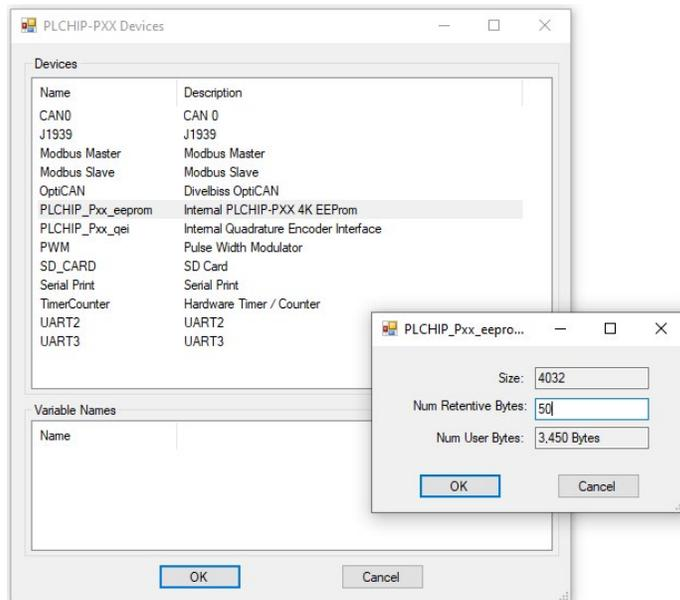

Figure 2.33 - Configure EEPROM Memory
4. Enter the number of retentive bytes to use in the target in the **Num Retentive Bytes** box. The maximum available to use is 3500 bytes. Refer to Figure 2-33. Any bytes not configured for retentive will be used as **EEPROM memory bytes**. (displayed as Num User Bytes).